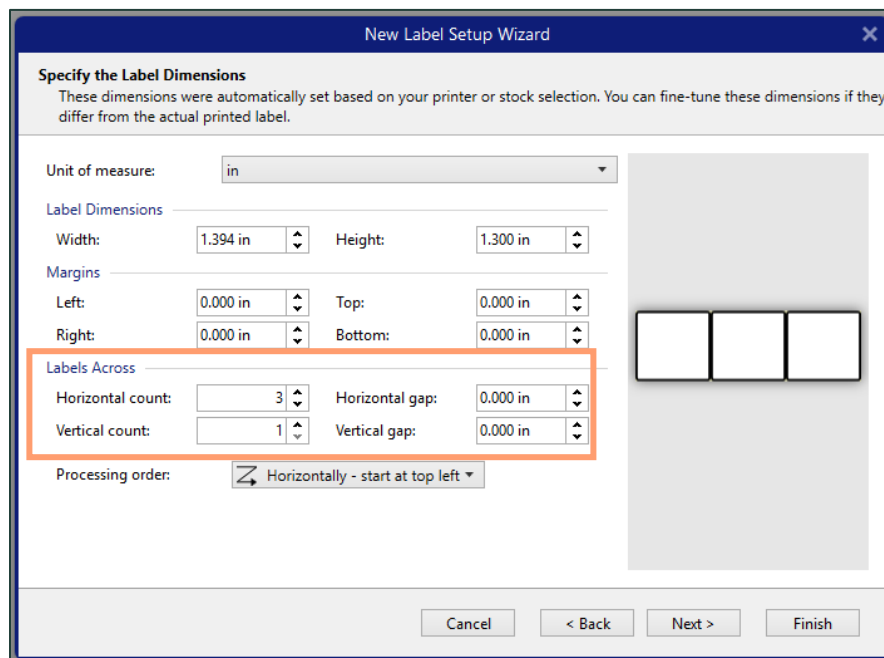

Figure 13: New Label Set Up Wizard with Labels Across Horizontal count being adjusted
7. For +2Up labels (two or more labels across the reel), adjust the horizontal label count here – **see figure 13**. Once complete, click Finish.